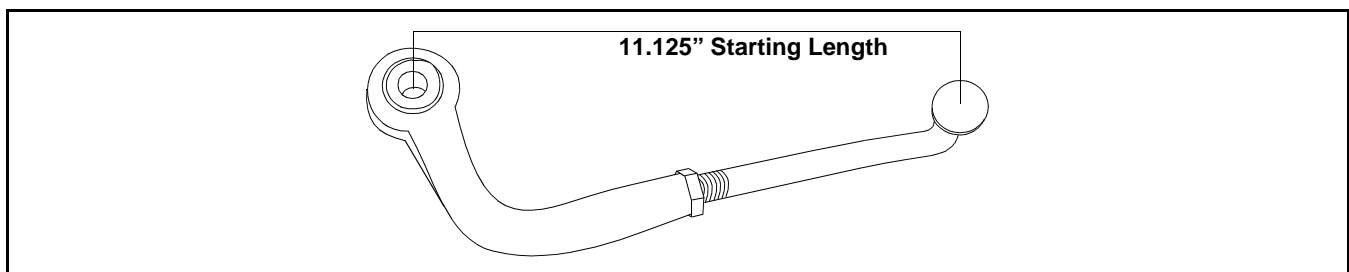

Figure 22
**Note:** If after a number of attempts to level the mower deck fails to succeed, adjust the retaining arm to their original lengths of 11.125 inches. (See Figure 22)
- Shorten the distance shown on Figure 22 by turning the 90 degree rod one complete turn in. (Repeat if same result)
- Lengthen the distance shown on Figure 22 by turning the 90 degree rod one complete turn out. (Repeat if same result)